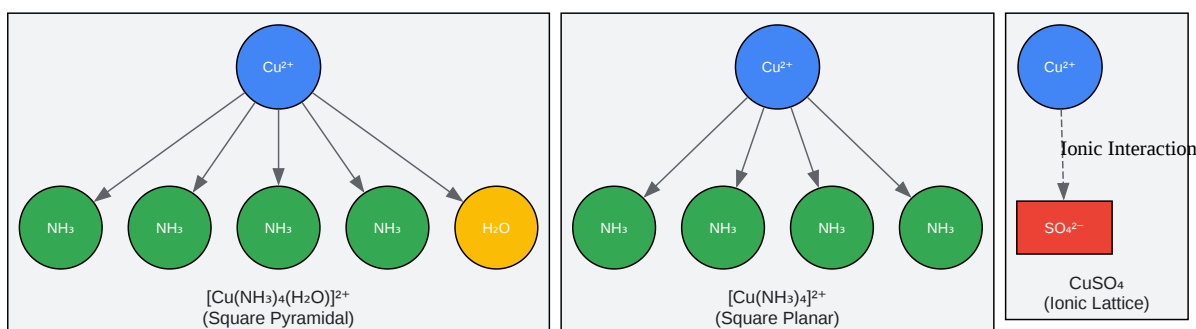

Fig. 2. Copper(II) Coordination Environments
Caption: Fig. 2. Copper(II) Coordination Environments